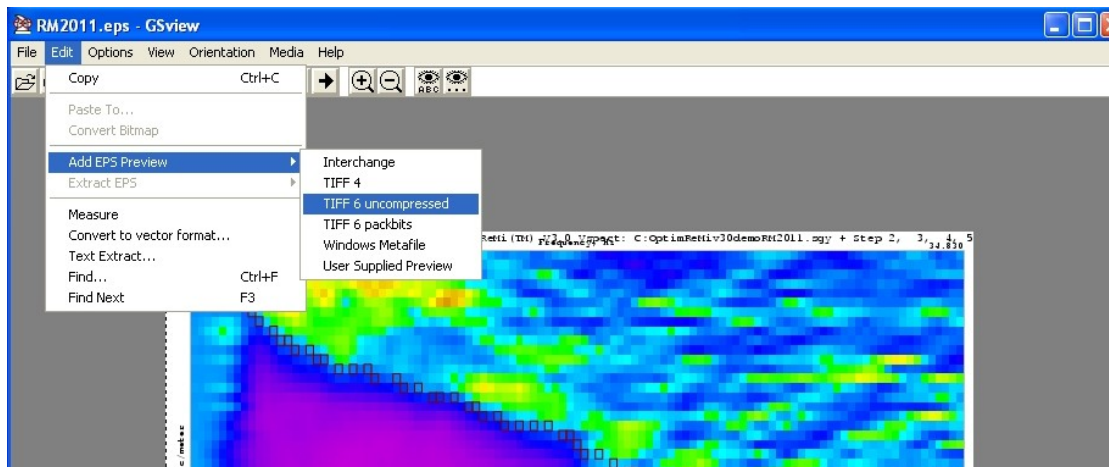

Figure 46d: Choose the preview format to be "Windows Metafile" or "TIFF 6 uncompressed"
10. Now go to the "Edit" menu and choose "Add EPS preview" option, and select the preview type (Windows Metafile or TIFF is the best option) (Figure 46d).